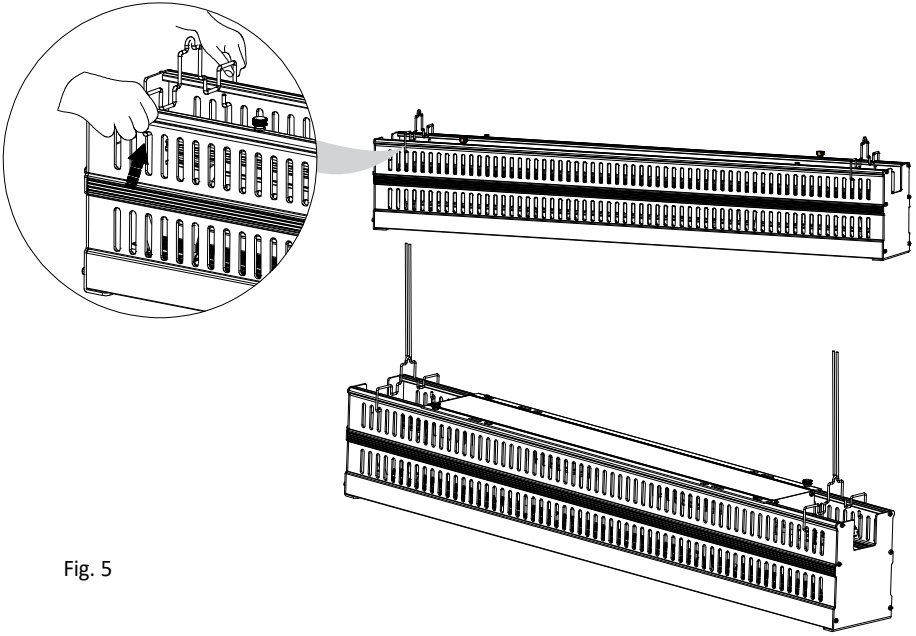

Fig. 5
2) With fixture hanger B (Part F), as Fig. 5.